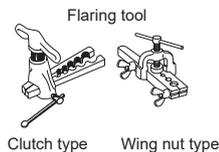

Figure 4
- 4) Flaring work (Figure 4, 5). Firmly hold copper pipe in the dimension shown in the table. Select A mm from the table according to the tool you use.